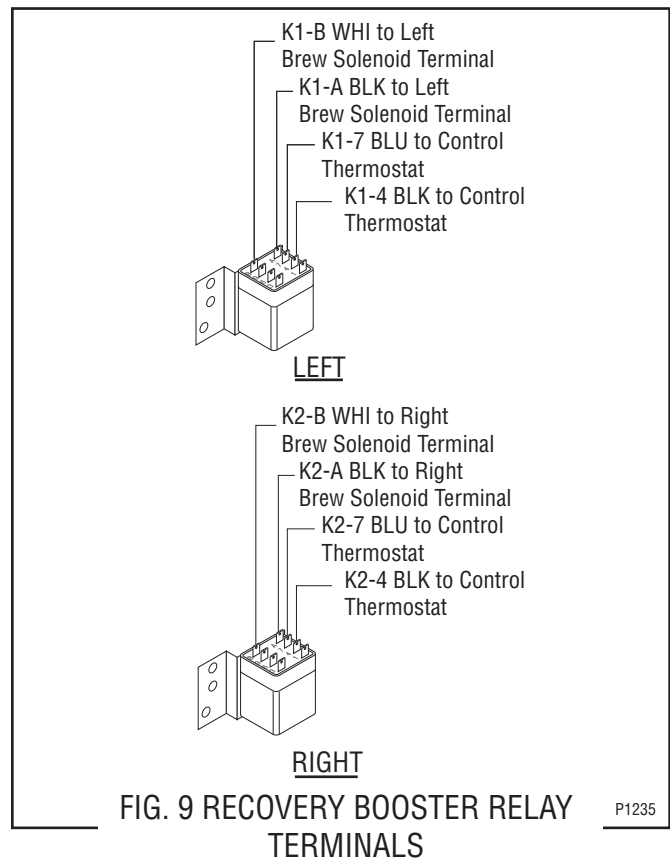

FIG. 9 RECOVERY BOOSTER RELAY TERMINALS P1235
6. Refer to Fig. 9 when reconnecting the wires.